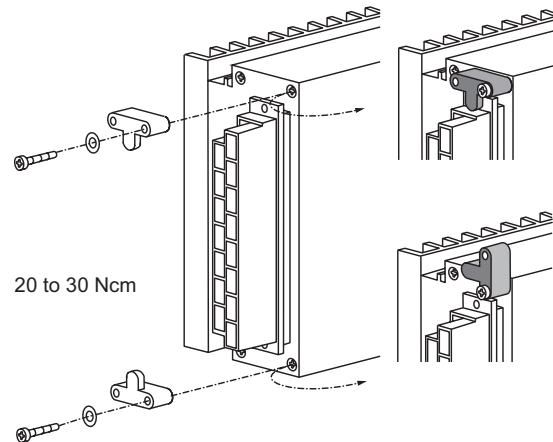

Fig. 43
- Connector retention brackets HZZ01216-G; see fig. 43